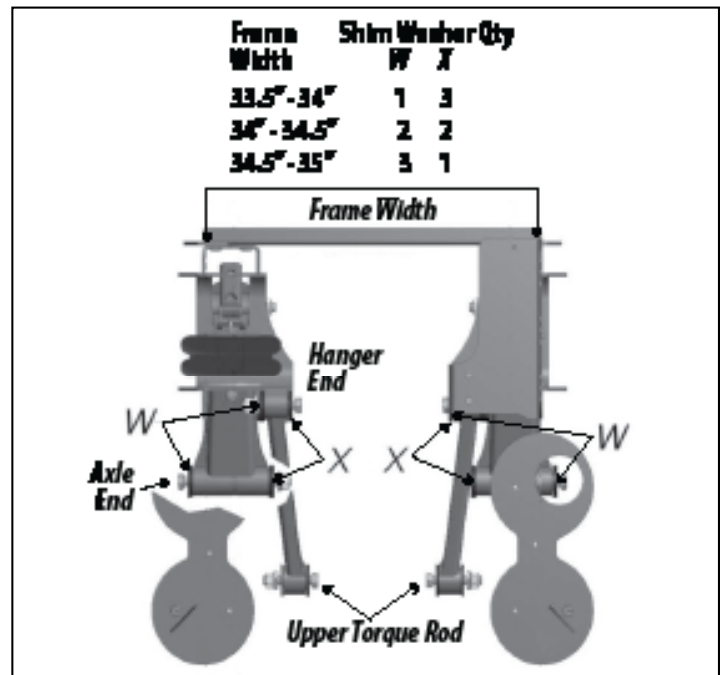

Figure 5.
1. Count and note the number of wear washers on each side of the upper torque-rod (Hanger End) and the lower torque-rod (Axle End). The wear washer number will vary with frame width (Figure 5).
- 5.3. Position the inner sleeve to extend slightly past the right or left side of the torque rod eye, depending on the number of wear (shim) washers needed (Figure 5). NOTE: Trim bushing ends flush to torque rod eye, if necessary.
- 6.2. Press inner sleeve into installed bushing. Center sleeve so that both ends extend slightly past the torque rod eye sides. Assemble the pivot connection with one wear washer on either side of bushing (Figure 5).
- 7.3 - Assemble the pivot connection with the appropriate number of wear washers (Figure 5). Torque pivot hardware to specifications.